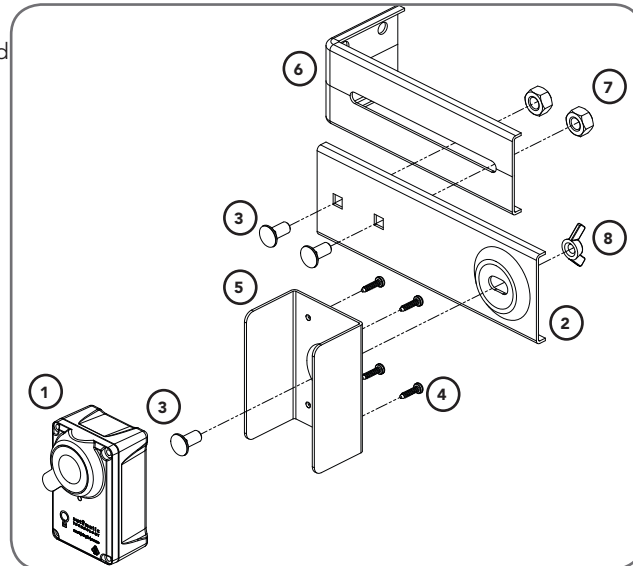

Fig.6.3.1
- Place the round screw (3) through the Bracket (5). Attach the Safety Beam Transmitter (TX) using four (4) M3 x 5 Taptite screws (4) (Fig. 6.3.1).
- Connect the mounting bracket (2) to the Bracket (5) using the wing nut (8) onto the round screw (3). Secure the adjustment bracket (6) to the mounting bracket (2) using two (2) screws (3) and nuts (7).
- Repeat steps (a) and (b) to assemble the Safety Beam Receiver (RX).